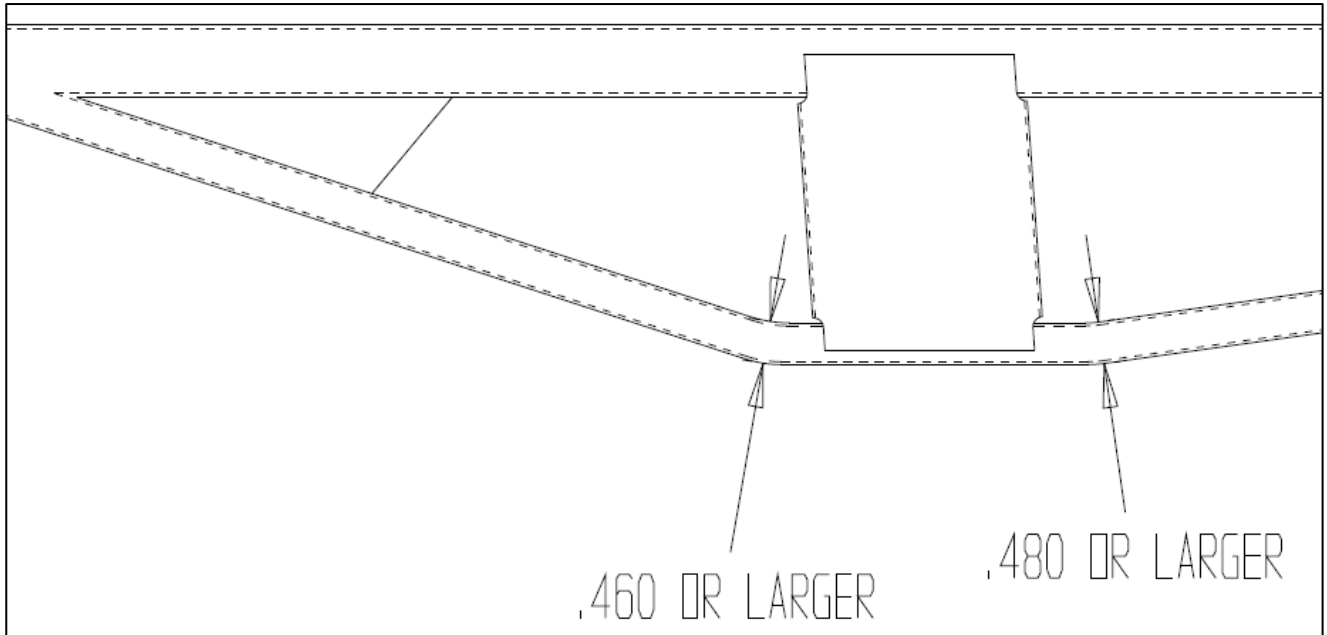

Figure 4. Minimum Dimensions for Tube in the Bend Areas
- 1.) If the width of the tube in the areas shown is greater than the dimensions shown in Figure 4, return the aircraft to service.
- 2.) If deformation or flattening of the bends in the tube is found, and the resulting tube thickness is less than that shown in Figure 4, contact Enstrom Customer Service to report the aircraft serial number and time in service and conduct 25 hour repetitive inspections as detailed in Paragraph 11.